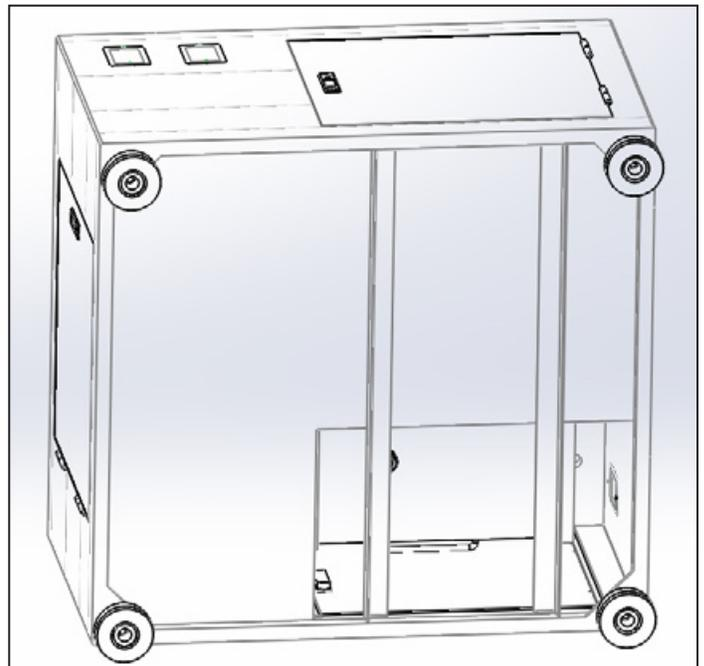

Figure 1
3. Carefully tip stand on its side; unbolt pallet from bottom of Stand (see **Figure 1**).
NOTE: Attach feet to Stand after the pallet is removed and while Stand is still on its side (see **Figure 1**).